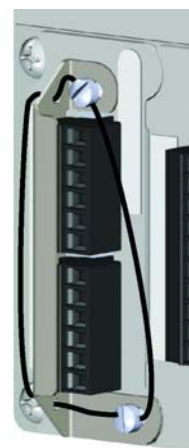

Figure 2-25.
3. Insert the lead wire seal through the holes in the sealing bracket and the large fillister screws as shown in Figure 2-25.